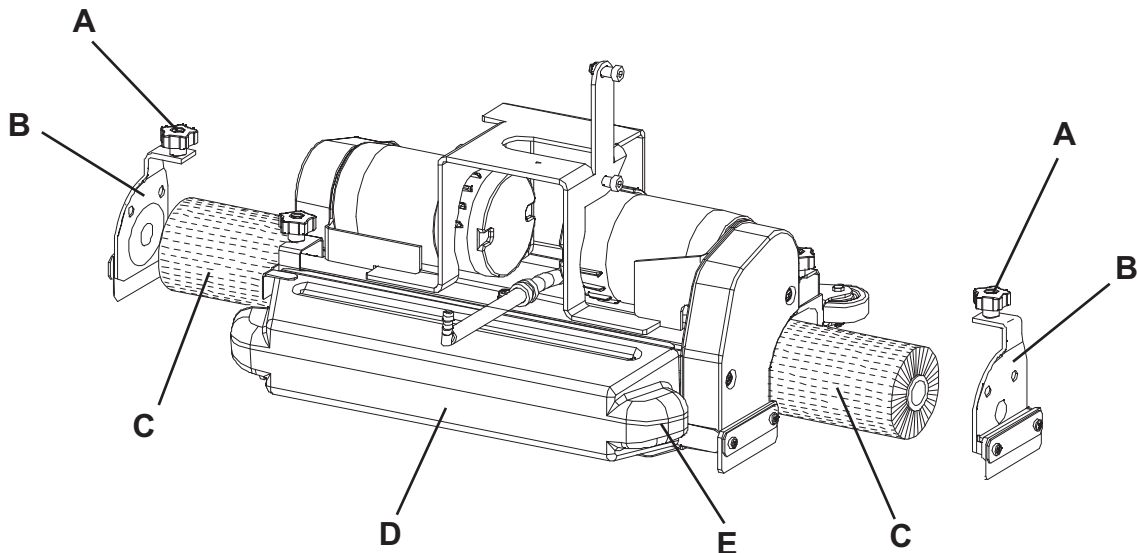

Figure 3
1. Turn the ignition key (80) to "0" position.
2. Lift the cylindrical brush deck by pressing the pedal (11).
3. Remove the handwheels (A, Fig. 3) and the lids (B) by pushing them downwards and pressing on the handwheels.
4. Install the cylindrical brushes (C).
5. Install the lids (B) and fasten them with the handwheels (A).